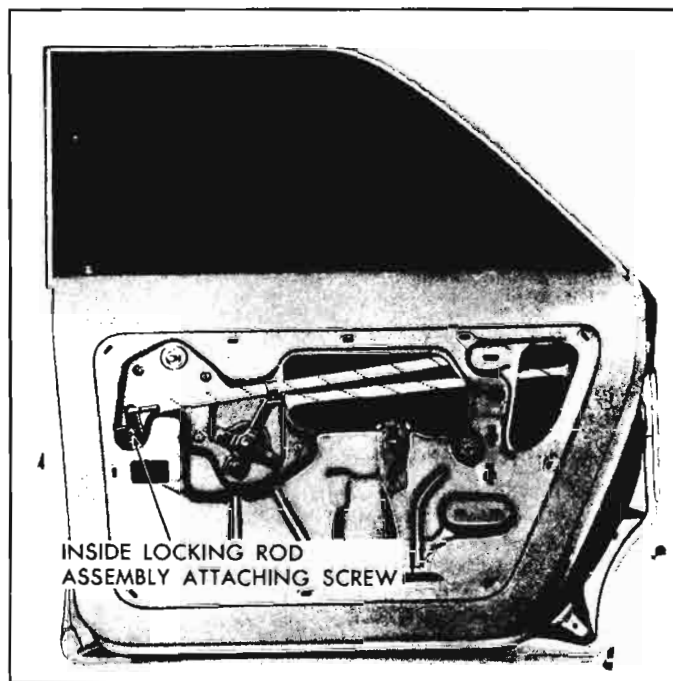

Fig. 10-67—Rear Door Lock Remote Control Attachment
4. Remove inside locking rod assembly attaching screw and washer, disengage rod from spring clip on door inner panel and remove inside locking rod assembly (see fig. 10-67).